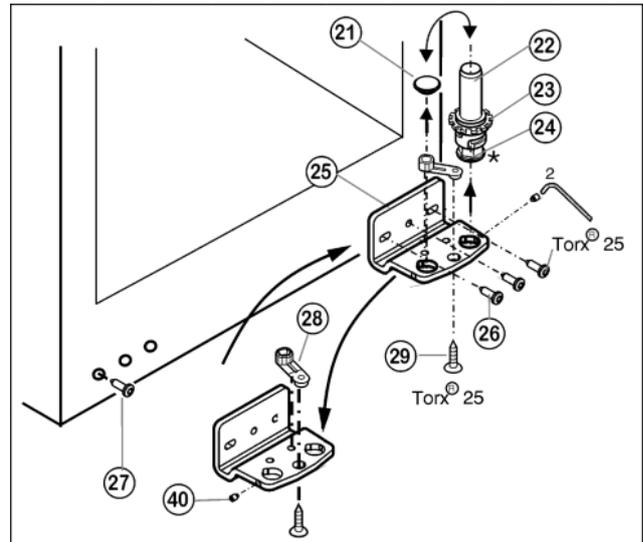

Fig. 8*
- ▶ Unscrew the bearing element Fig. 8 (28), turn it through 180° and screw it firmly back into place.
- ▶ Unscrew storage section Fig. 8 (28) and fit it to the opposing locating bore in the mounting block, then tighten it down.